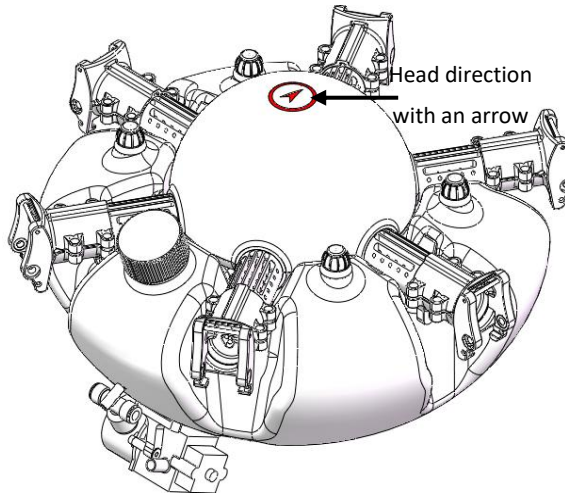

Figure 3
- 3) Install the fuselage and the water tank kit according to the mark ,1-3,2-4. It will be completed like Figure3.